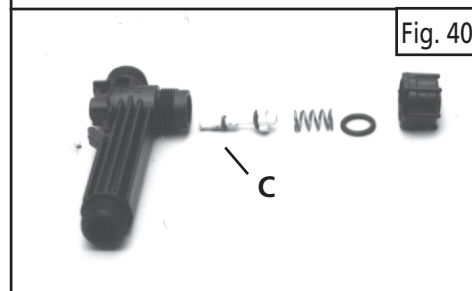

Fig. 40
3) Once the handle is off, the screw cap can be removed and the valve core (C) pushed out. Replace worn parts. Lubricate the o-rings and reassemble in reverse order. Note: The valve core has been painted white for clarity. (See Figure 40).